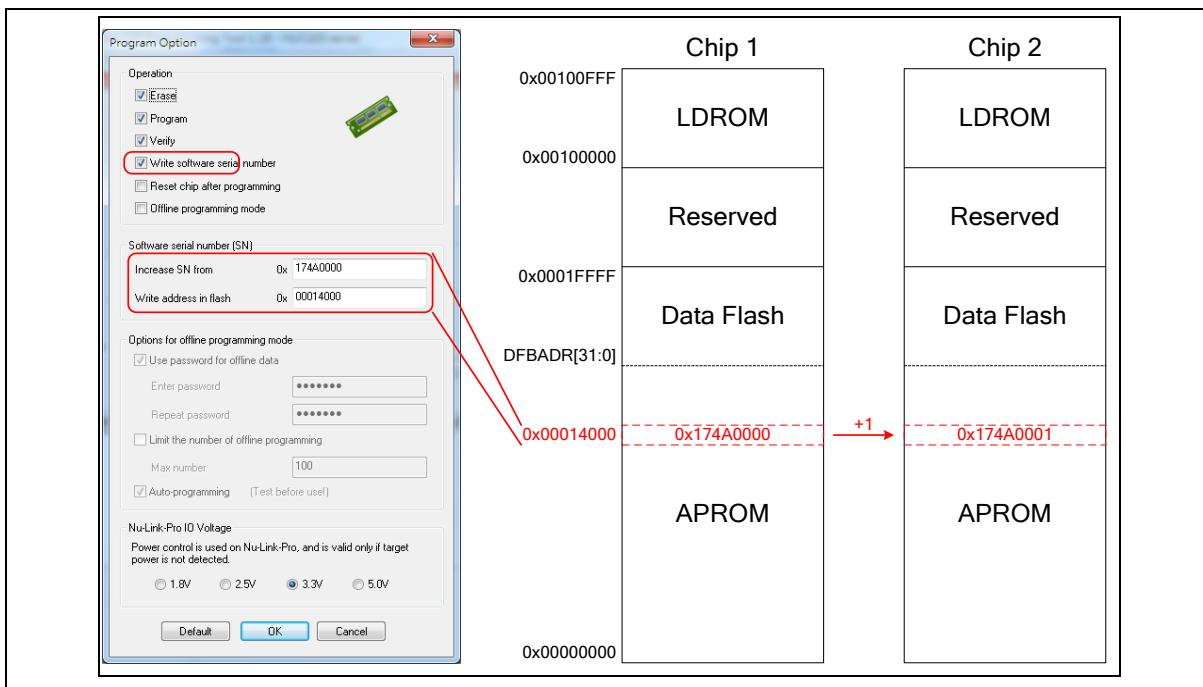

Figure 4.2-3 Software Serial Number (SN) Settings
The Software Serial Number (SN) function provided by the ICP Tool enables users to specify the value in the “Increase SN from” and “Write address in flash” fields for the target chip during online/offline programming. Take the M031 series chip for example, the user can specify a set of “Increased Serial Number (SN)” and “Write Address” to any of APROM, LDROM, and Data Flash, and the written Serial Number (SN) will be automatically incremented (as shown in Figure 4.2-3).